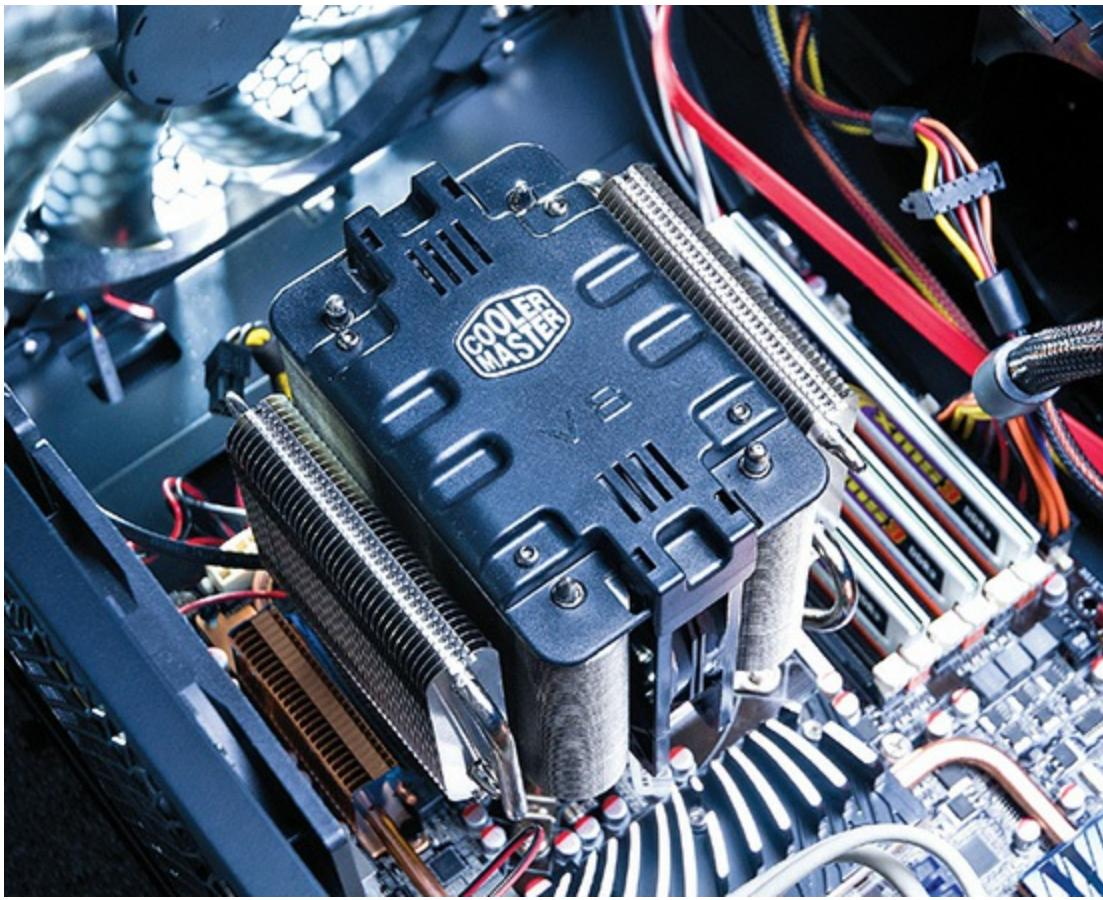

Figure 3-40 Cool retail heat sink
- **Specialized CPU coolers** Many companies sell third-party heat-sink and fan assemblies for a variety of CPUs. These usually exceed the OEM heat sinks in the amount of heat they dissipate. These CPU coolers invariably come with eye-catching designs to look really cool inside your system (see Figure 3-40)—some are even lighted.